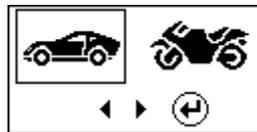

Fig.11
5. After you have made your choice, you can begin testing by selecting  or  by pressing ◀ or ▶ key then ↻ key will proceed to the display below: (Fig. 11)